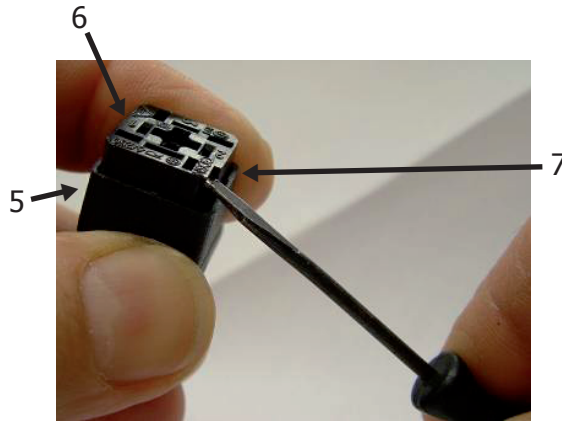

Figure 20 *Removal of Terminal Block*
- d. Using a small screwdriver in the mounting hole (7), lever the terminal block (6) out of the outer housing (5) (*Figure 20*).
- g. Press the terminal block (6) back into the outer housing (5) firmly (*Figure 20*), until a 'click' sound is heard.